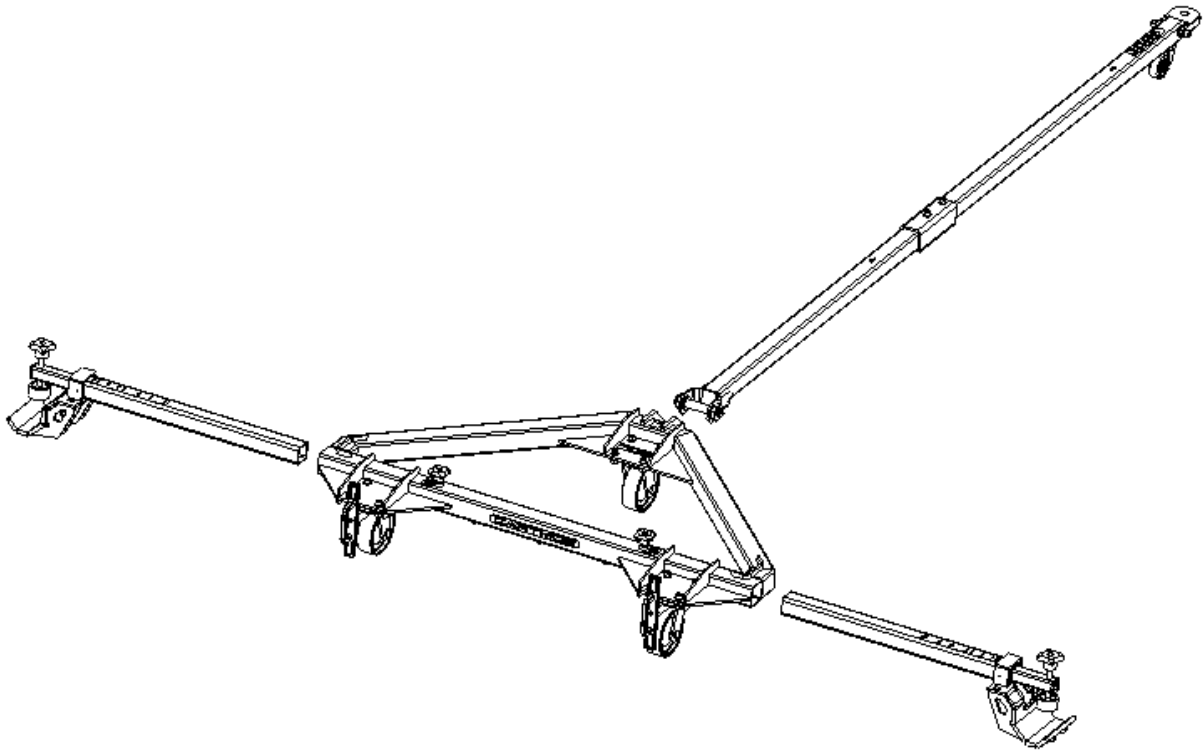

Fig. 1
- a. Release the screw (4-1/20) and remove the Towbar (4-1). See Figure 1.
- b. Release the screws (1-1/8) and handles (1-1/26), remove the arm sets. See Figure 1.
- a. Release the screw (4-1/6) and remove the eye (4-1/4). See Figure 1.
- b. Release the screws (4-1/7) and remove the parts (4-1/1) and (4-1/2). See Figure 1.
- c. Release the screws and remove the Casters (4-1/19). See Figure 1.